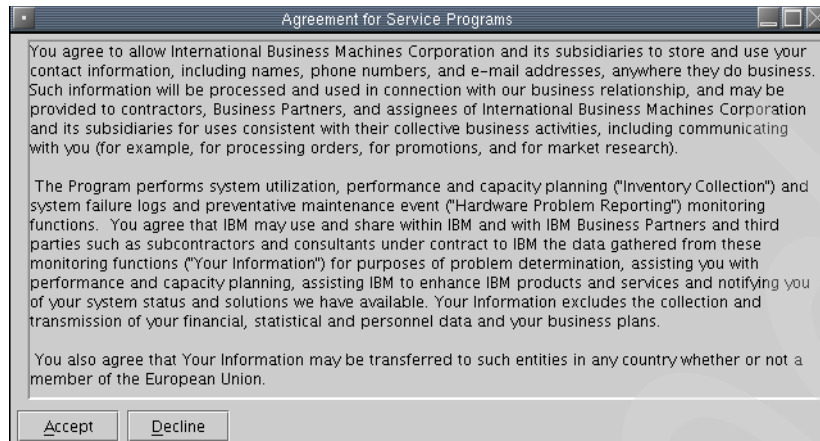

Figure 4-33 Guided Setup - Agreement for Service Programs
32. The Agreement for Service Programs panel is now shown (see Figure 4-33). Read the agreement details carefully and click **Accept** or **Decline**.